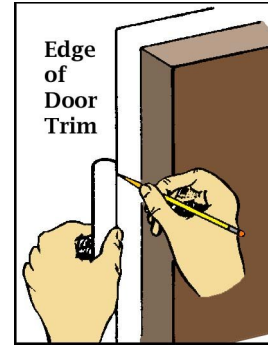

Figure 3
- **Step 6** As shown in Figure 3, using the straight edge of a steel ruler, the trim around a door, or the 12" length of brass angle, draw lines upward from the bottom of the tube for a distance of 1.25" for the fins, and 2.25" for the launch lug.